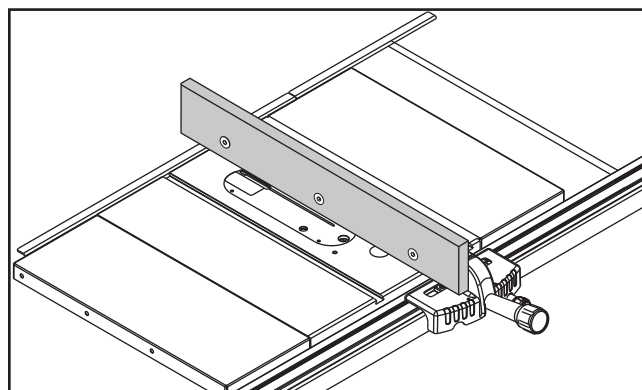

Figure 71. Example auxiliary fence attached to included fence.
7. Insert cap screws through holes in auxiliary fence board (see **Figure 71**).
8. Align cap screw threads with hex nuts and tighten (see **Figure 71**).